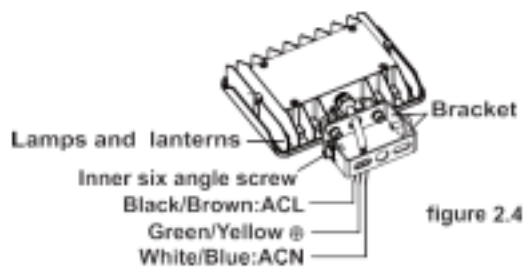

figure 2.4
Step 2: Finish the wire connection according to the right mode of connection (pay attention to positive wire, negative wire, and ground wire), and then put wire into lamp pole. (figure 2.4)